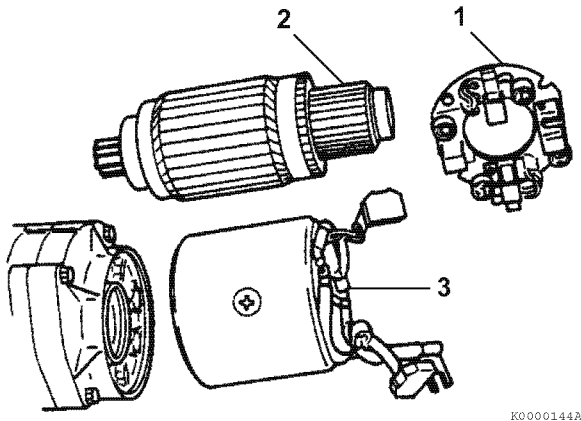

Figure 11-31
8. Reinstall the plate onto the intermediate housing and carefully reinstall the armature assembly (2, **Figure 11-31**) into the pinion shaft assembly.
9. Reinstall the field assembly (3, **Figure 11-31**) over the armature assembly and align to the pinion housing.